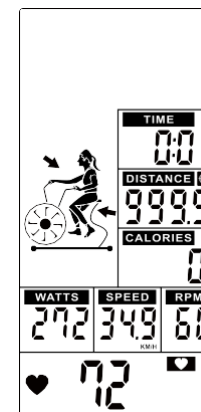

Figure 42
- ③ Preset DISTANCE value counts down, TIME, CALORIES, WATTS, SPEEED, RPM start to count up. (Figure 42)
- ④ Press START button once enter into PAUSE mode. Buzzer will sound for 0.5s per second within 30s. All values are displaying on LCD and flashing in every 2s. If continue to stop training for 5 minutes, buzzer sounds 2s and enter to Wake-up mode. Press START to resume workout.
- ⑤ No signal input for 30s, buzzer sounds 1s and enter to Wake-up mode.